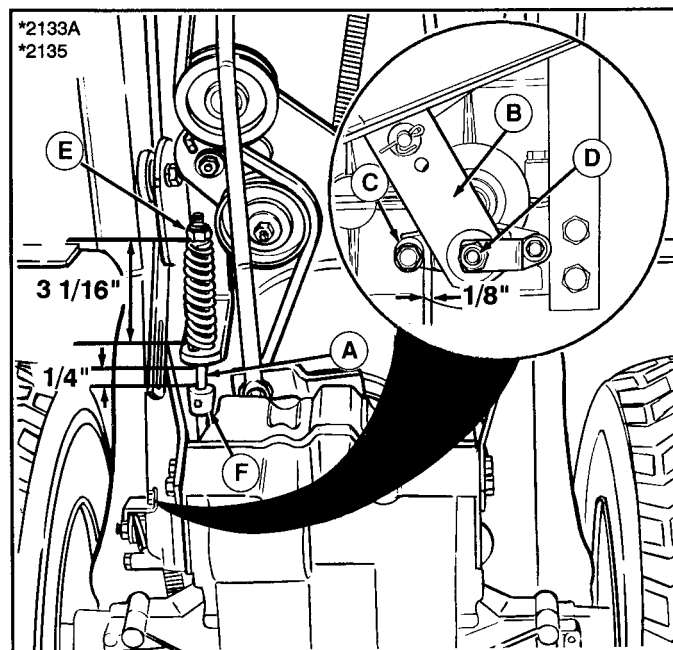

Figure 27.
1. Place the transmission in gear and release the parking brake. Move the brake rod (A, figure 27) back and forth to be sure there is no tension on the brake pads.
2. Push the cam lever (B) forward (toward front of tractor) to take out any slack. The gap between lever (B) and stop (C) should be 1/8 inch (0.3 mm). Use a feeler gauge to measure. If not 1/8 inch, perform set 3.
3. Loosen or tighten the adjustment nut (D) to achieve correct dimension.
5. Spring should be compressed to 3-1/16" long ($\pm 1/16$ "). Turn adjustment nut (E) as necessary for correct spring length.